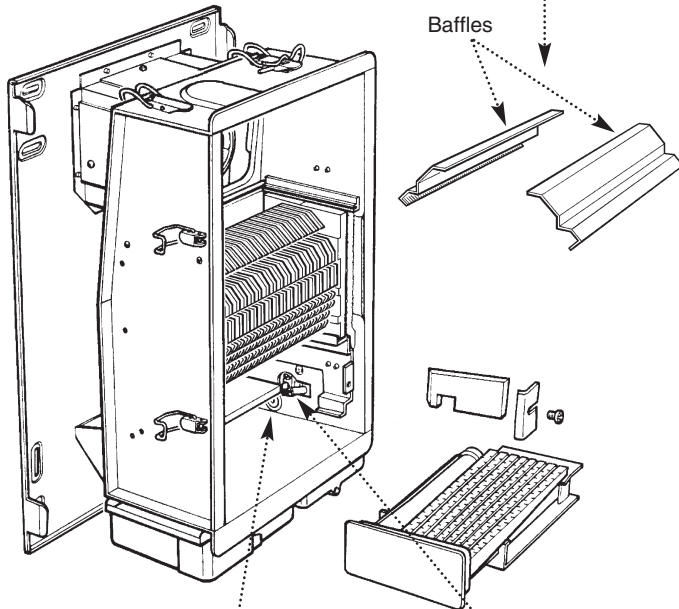

Fig. 103
1. Remove the burner assembly by pulling it forward (Fig. 103).
4. Lift the baffles out of the heat exchanger (Fig. 103).
3. Remove the right hand side insulation carrier bracket by releasing the screw. Remove the side insulation (Fig. 103).